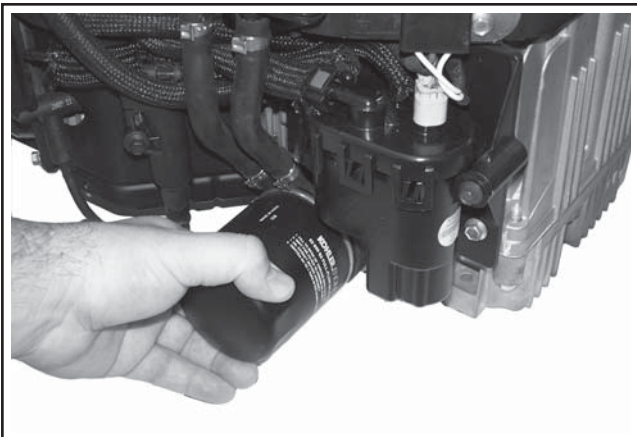

Figure 10-92. Installing and Tightening Oil Filter.
2. Apply a thin film of clean oil to the rubber gasket on the oil filter and thread the filter onto the adapter nipple. See Figure 10-92.